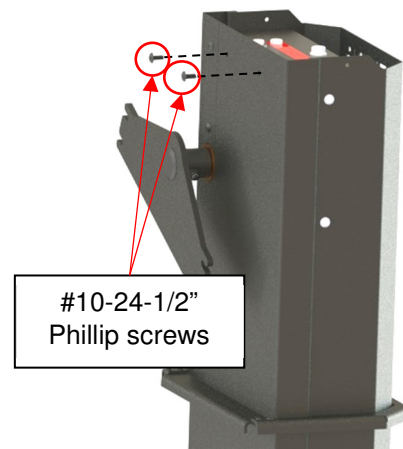

Figure 23
- 6) Unscrew the two #10-24-1/2" Phillips screws shown in Figure 23 at the back of both post assemblies. **DO NOT DISCARD THESE SCREWS**
- 13) Screw the two #10-24-1/2" Phillip screws and the four 1/4-20-1" button-head screws back into the inner sleeve. (Figure 23 & Figure 24)